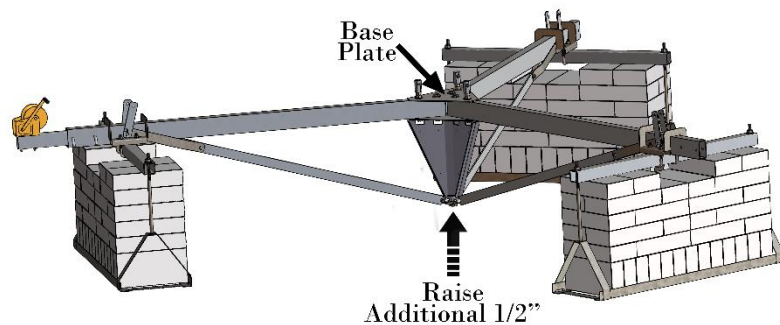

Figure 29 Base setup
10. Measure the height from the ground to the top of the baseplate and tighten kingpost hex bolt to increase the height an additional $\frac{1}{2}$ " from the ground as per Figure 29.